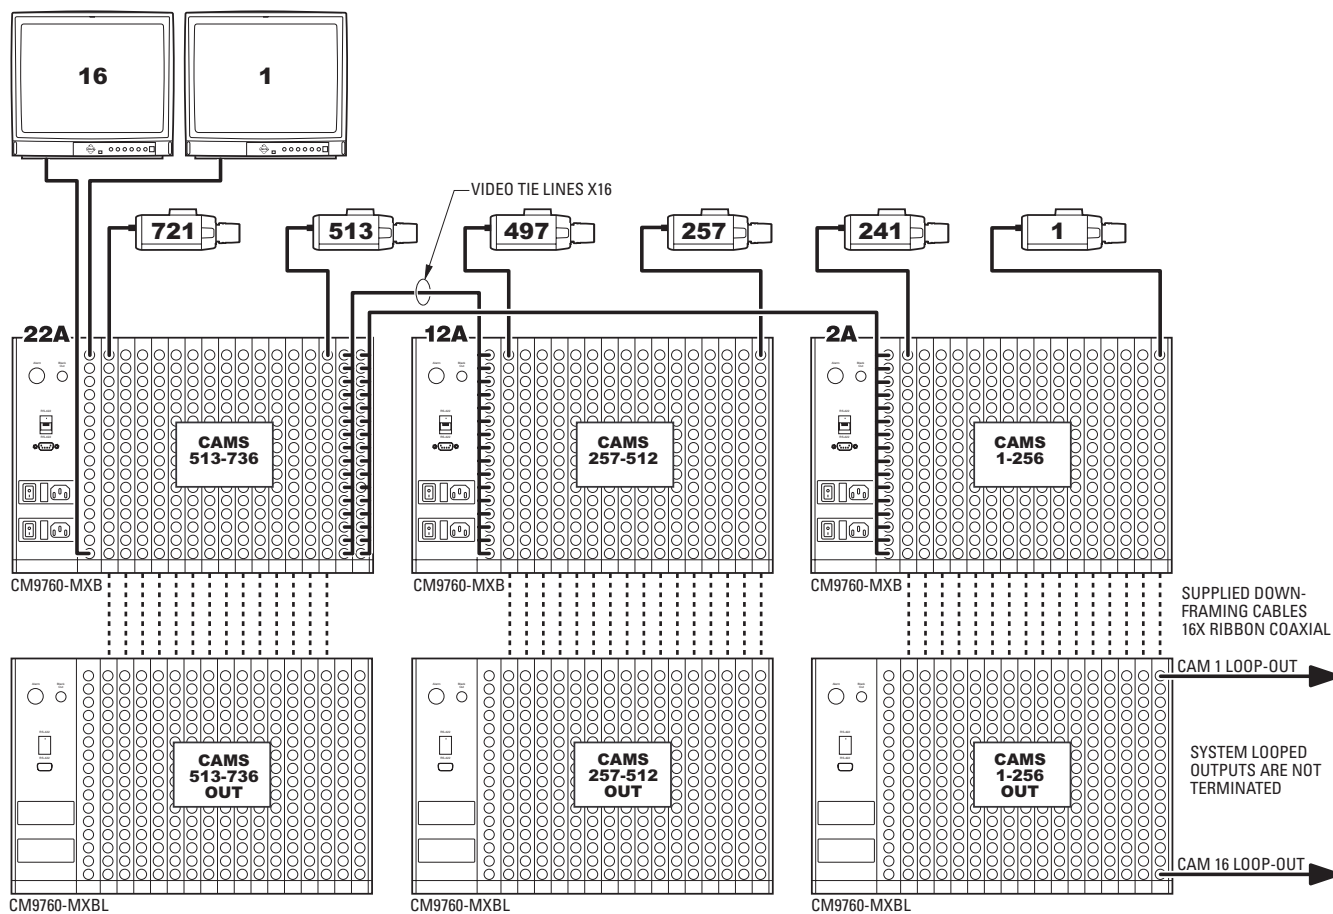

Figure 86. Downframing to CM9760-MXBL: 736 x 16 Configuration, Looping
- 736 x 16, looping (refer to Figure 86)